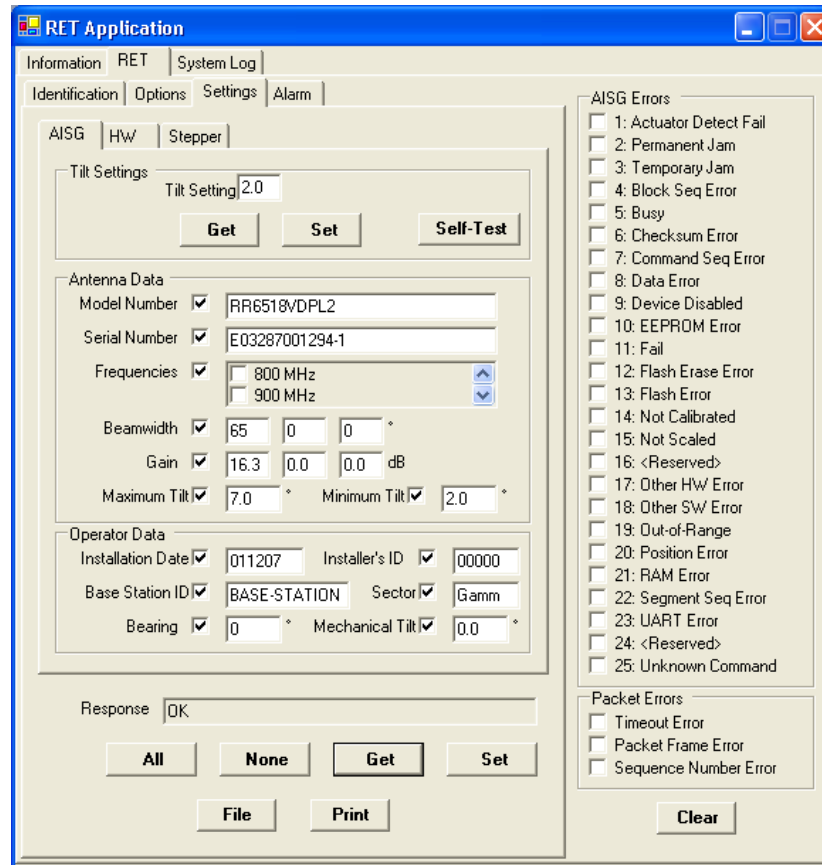

Figure 2. Configuring Site Information into the PWR-COBRA Interface for a RET Antenna.
12. Click the **Settings** tab (located at the top of the screen). At the bottom of the screen, click on **ALL** and then click on **GET**. This will populate the **Antenna Data** section of the screen with information that was programmed into the antenna at the factory (including model number, serial number, frequency, gain, and the maximum and minimum tilt settings). The **Operator** data section will be blank and should be filled in with the information that was recorded on the Installation Configuration sheet in Step 1 (Figure 2).
14. To set the electrical downtilt for each antenna actuator, first double click on the first antenna **serial number** shown in the **Vendor/Serial Number** box on the **Identification** screen. Enter the **password** (the password should be entered using lower case letters), and then click on **Connect** and **Enable**. The **Response** window should display **CONNECTED**. Select the **Settings** tab then the **AISG** tab. Enter the desired downtilt in the **Tilt Setting** box at the top, then click the **Set** button. Repeat this step until all antennas at the site have the desired electrical downtilt setting. See Figure 2.
15. After all the antenna actuators have been configured and the downtilt settings have been adjusted to their new values, you may want to generate a record of your work. Go to the **AISG** screen shown in Figure 2 to generate a record (a read only XML file will be generated).